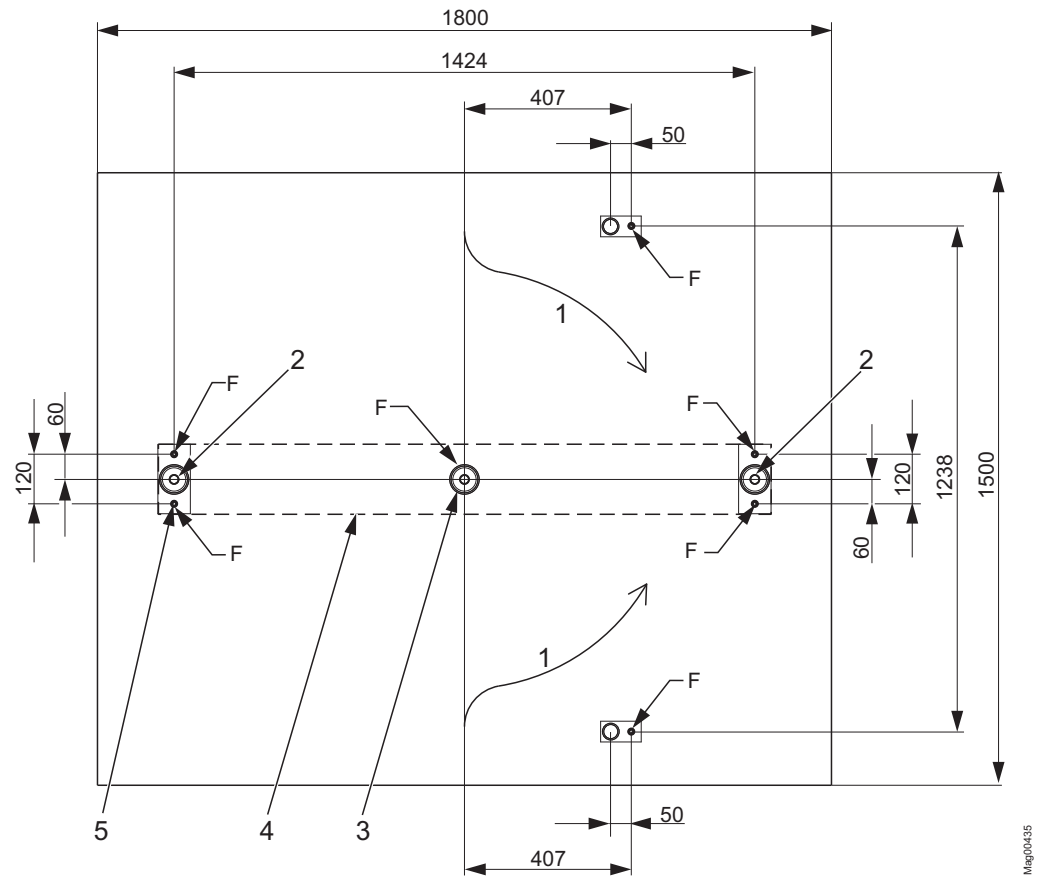

Fig. 4: Foundation plan
The empty conduits must be positioned accurately to the drilling plan. Refer to Page 25, Fig. 4.
1. Make the bore holes as per the drilling plan (see Page 25, Fig. 4). Use the drilling jig supplied.